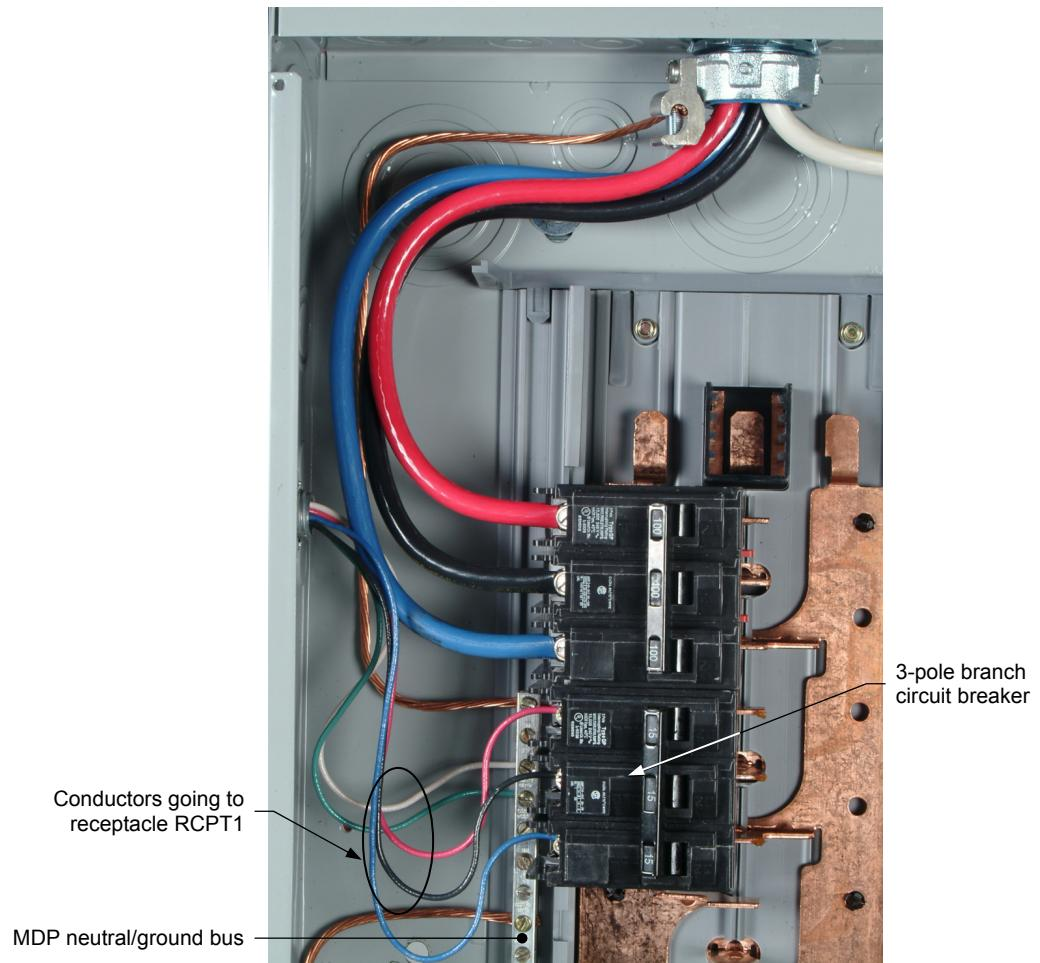

Figure 22. The three-pole circuit breaker installed below the MCB.
- 13.** Install the circuit breaker in the top-left circuit breaker space of the MDP just below the MCB as shown in Figure 22.
- 17.** Connect the three wires of the previous step to the terminals of the three-pole, branch circuit breaker (refer to Figure 22).
- 18.** Strip the wires with white and green insulation from the type MC cable and connect them to the MDP neutral/ground bus (refer to Figure 22).
- The wires with red, black, and blue insulations from the type MC cable going to the three-phase receptacle are connected to the terminals of the three-pole, branch circuit breaker installed in the previous step, as indicated in the electrical power distribution interconnection diagram, Part I (see Figure 22).
- The wire with white insulation from the type MC cable going to the three-phase receptacle is connected to the MDP neutral/ground bus (see Figure 22). The corresponding setscrew on the MDP neutral/ground bus is well-tightened to ensure a solid connection of this wire.
- The wire with green insulation (equipment grounding conductor) from the type MC cable going to the three-phase receptacle is connected to the MDP neutral/ground bus (see Figure 22). The corresponding setscrew on the MDP neutral/ground bus is well-tightened to ensure a solid connection of this wire.